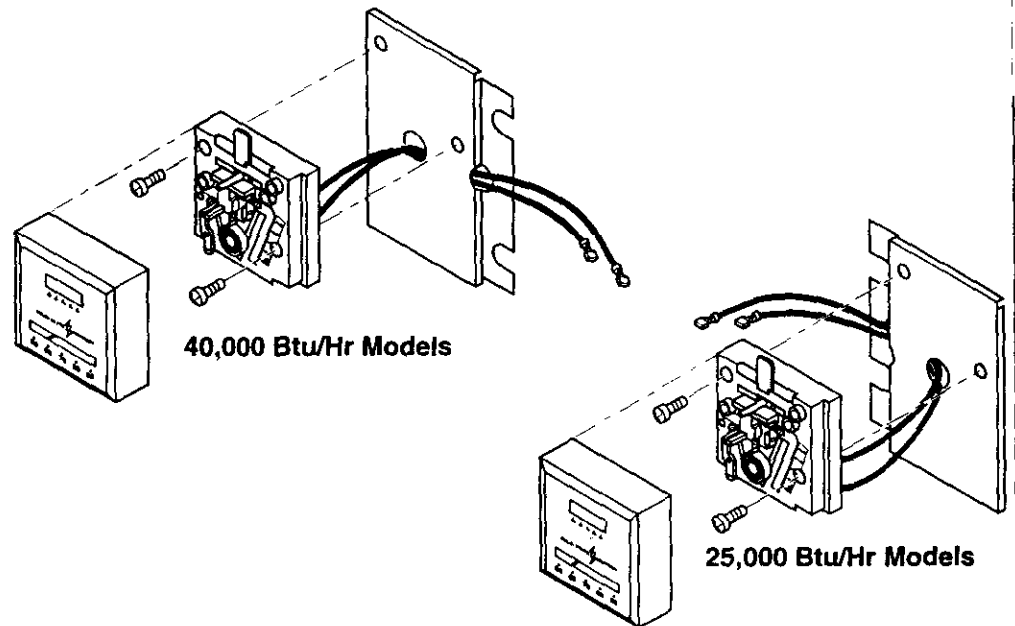

**Figure 3 - Connecting Thermostat Wires to Thermostat**
5. Connect thermostat wires to the two terminal screws on back of thermostat (see Figure 3). Connect red wire to "R" terminal. Connect white wire to "W" terminal.